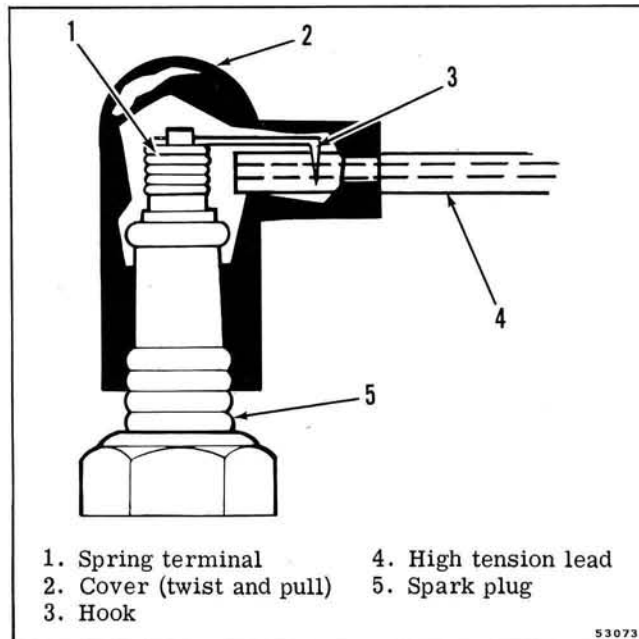

Figure 4-13. Spark Plug Cover and Terminal
a. Remove the high tension lead from each spark plug. To prevent damage to the spring terminal on the high tension lead, twist and pull on the cover. See Figure 4-13.